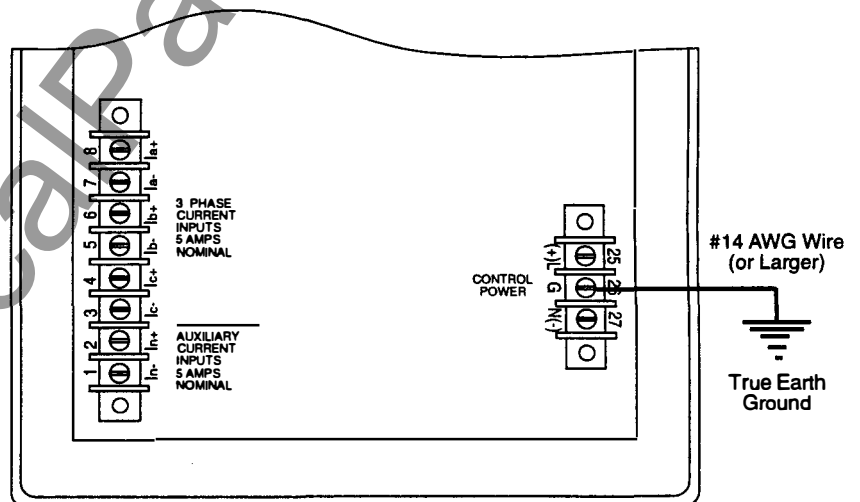

Figure 3-9: Grounding the Circuit Monitor
1. Connect the Ground terminal (terminal 26) to a true earth ground, using #14 AWG wire or larger with spade connector (see figure 3-9).